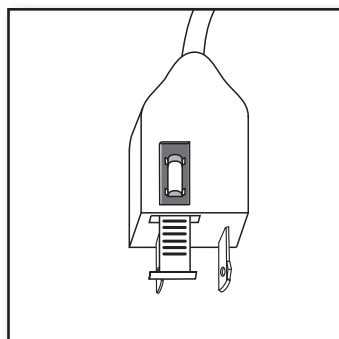

Figure 3
3. Turn fuse holder over to remove fuse. Remove fuse carefully. Figure 3.